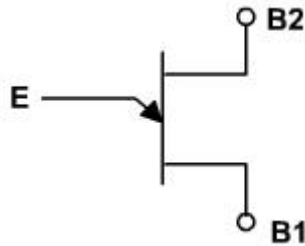
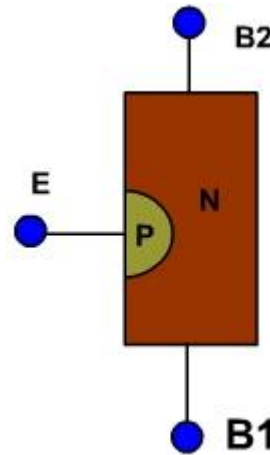

Fig. 1
Fig .2
The symbol for UJT is shown in **fig. 1**. The UJT is having three terminals base1 (B1), base2 (B2) and emitter (E). The UJT is made up of an N-type silicon bar which acts as the base as shown in **fig. 2**. It is very lightly doped. A P-type impurity is introduced into the base, producing a single PN junction called emitter. The PN junction exhibits the properties of a conventional diode.